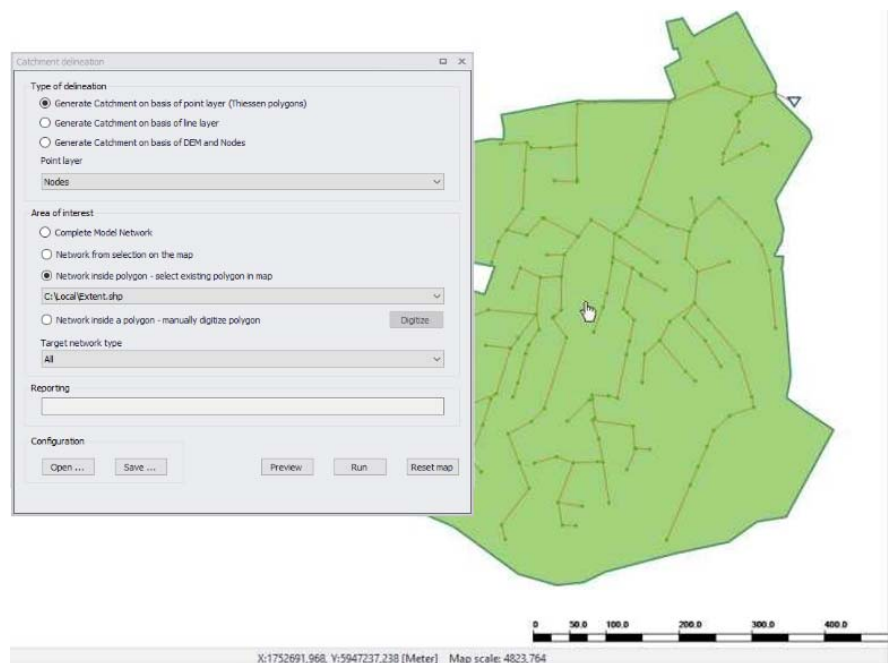

Figure 11.21 Selecting a polygon as a boundary for the delineation
- Network inside polygon - select existing polygon on map. Select an existing polygon from any polygon layer in the project. If this method is selected, the specific layer to be used is chosen from the dropdown menu and the specific feature selected on the map. See Figure 11.21. A catchment will be delineated around each network element within this polygon. After selecting the polygon layer from the list, the message "Please select a feature" will appear: select polygon(s) from the layer to be included by clicking on the map.